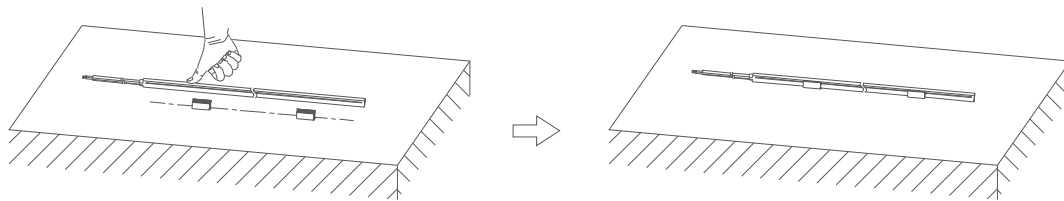

figure 2
- Install the led strip into the fixing booth, the installation is complete, as shown in Figure 2